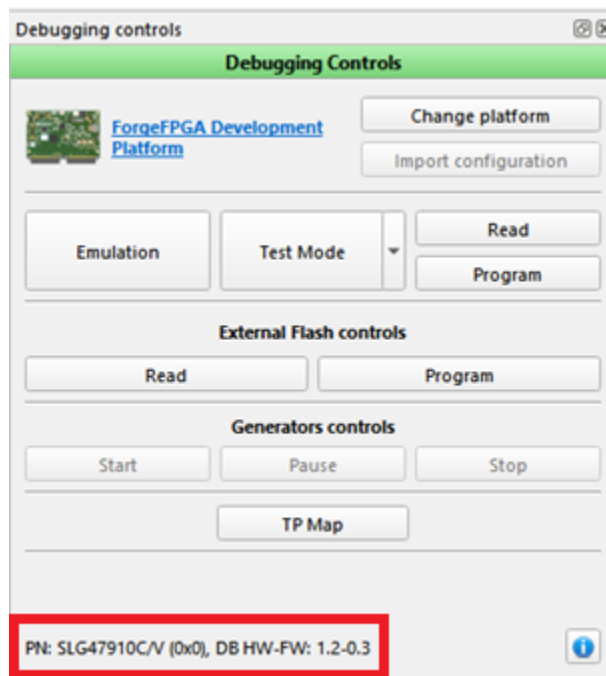

Figure 43. Debugging Controls
The Debugging Controls panel contains the UI controls for chip communication and programming. Now let's review the different parts of the Debugging Controls (Figure 43).
After the Development board with the chip in the Socket Adapter Board has been connected, we can see the PN (Part Number) SLG47910 being displayed at the bottom of the Debugging Controls Dialog Box (Figure 43). The Debugging Control Window also indicates the Development Boards (DB) Hardware (HW) and Firmware (FW) version.